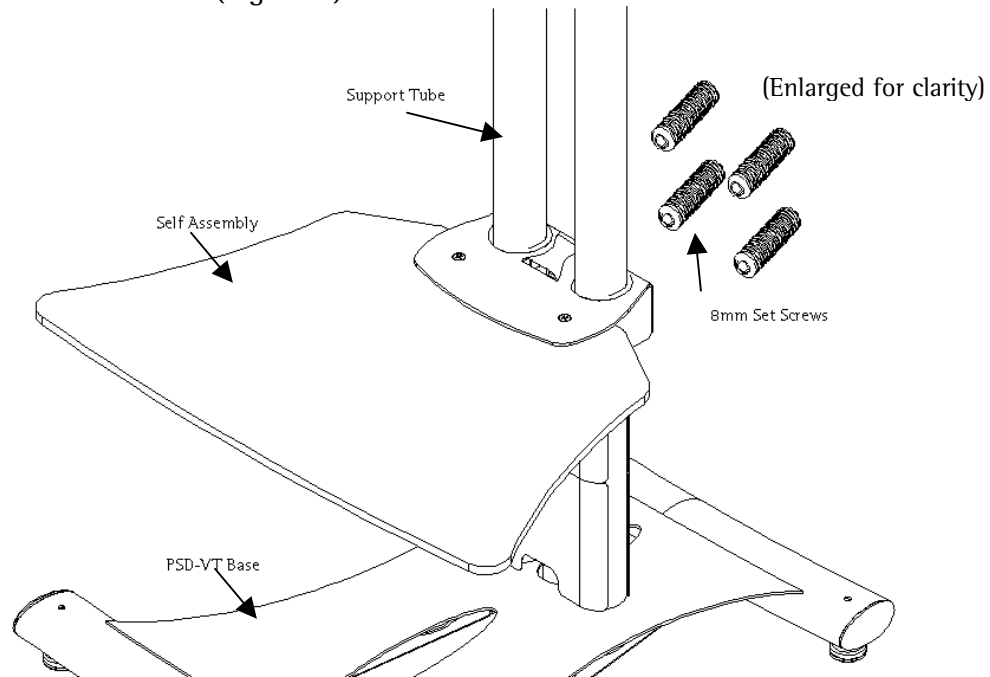

Figure 5. Shelf Assembly
3. After the height has been determined, use four (4) 8mm set screws to lock the shelf assembly in place.
4. Tighten using an Allen wrench (Figure 5).